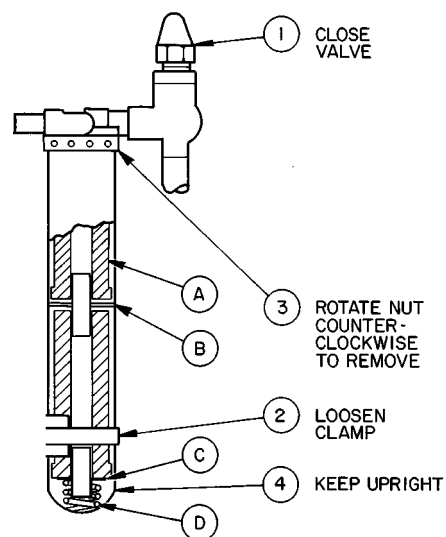

Fig. 29 — Removing the Oil Filter
4. Close the line valve (Fig. 29, Item 1) to isolate the oil filter(s).